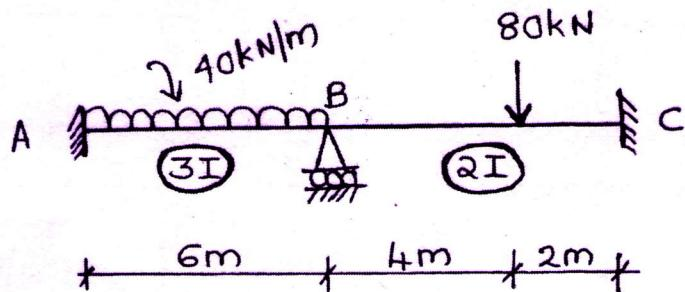

Fig. 4
- 4 a) Analyse the continuous beam shown in Fig. 4 by moment distribution method and draw the bending moment diagram and shear force diagrams. Draw the elastic curve also. (15)